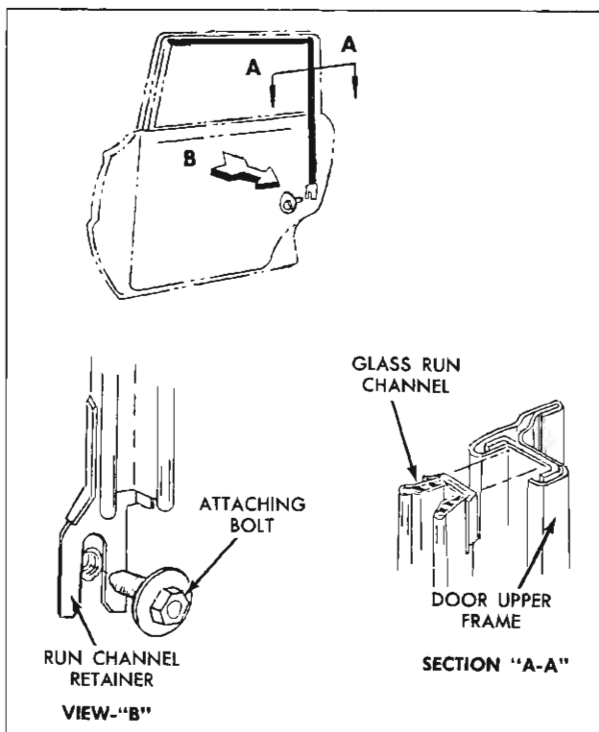

Fig. 3-39 Glass Run Channel
2. On "35", "45" and "69" styles, through large access hole, remove screw securing lower end of glass run channel at door lock pillar and raise end of channel to expose lock assembly (Fig. 3-39).
3. On "35", "45" and "69" styles, through large access hole, remove screw securing lower end of glass run channel at door lock pillar to gain access to spring clip securing rod to lock (Fig. 3-39).
3. On "35", "45" and "69" styles remove glass run channel lower attaching screw to gain access to spring clip securing rod to lock (Fig. 3-39).